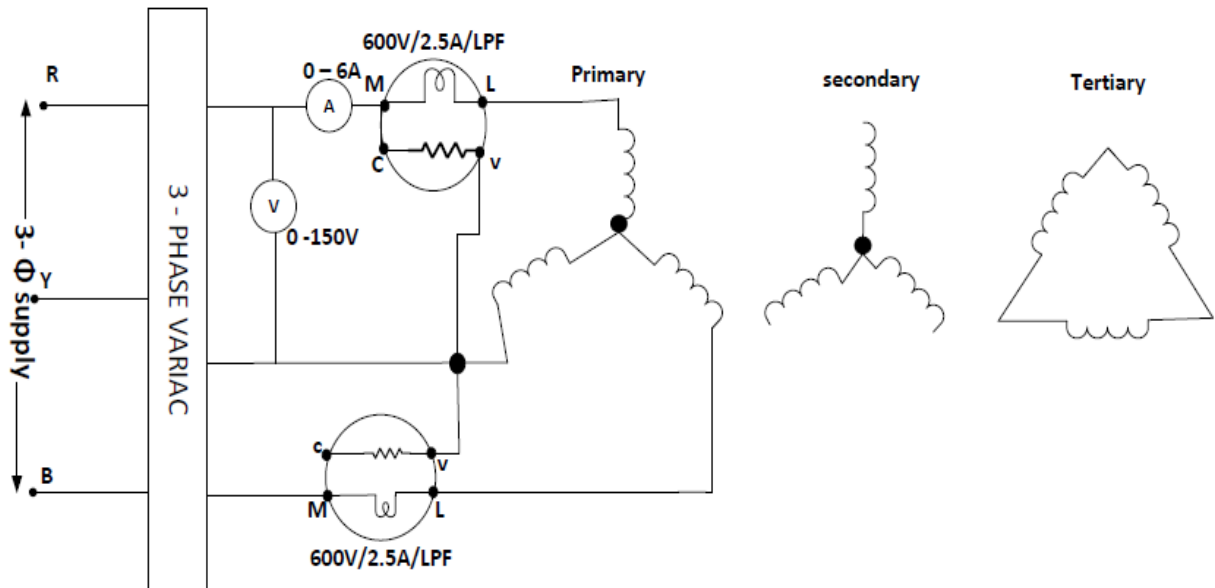
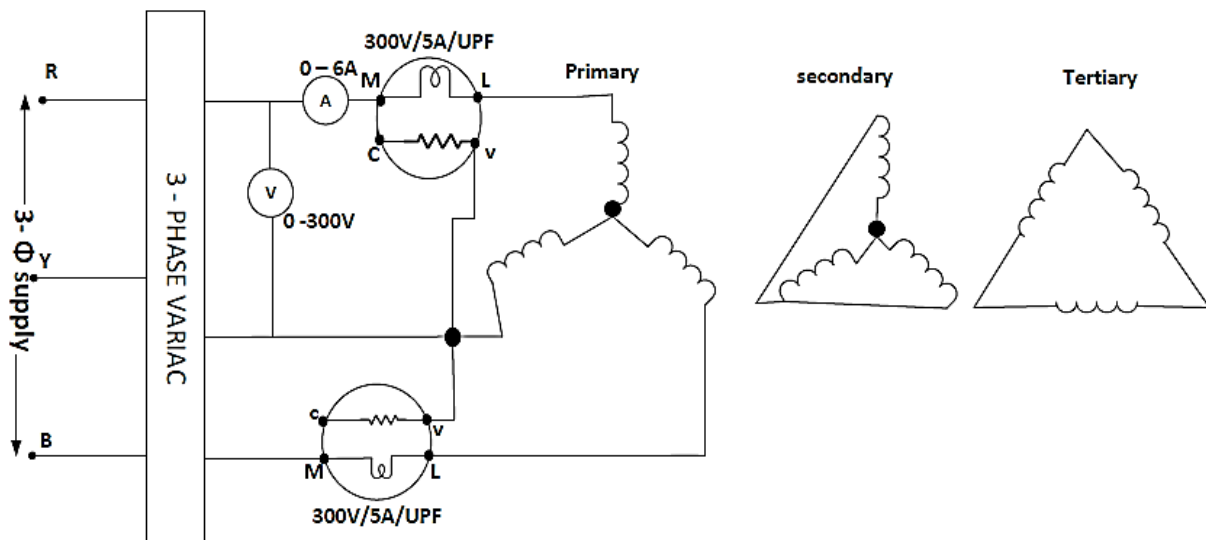

Fig.2 Circuit diagram for Open Circuit Test
Fig.3: Circuit diagram for Short Circuit Test
- e) The Ammeter and the wattmeter should be connected as shown in Fig.2. The Voltmeter should be kept floating. Take care to use a low power factor wattmeter for open-circuit test.
- a) Follow the steps 1,2 and 3 of (A).
- b) Make the connections as shown in figure 3. Three-phase supply is given to primary through auto-transformer, the secondary will be short circuited and the tertiary will be open-circuited.